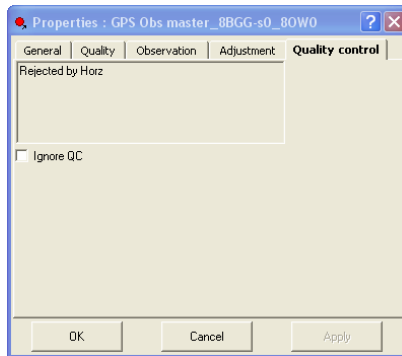

Figure 5-110. Quality Control Properties
- View *Quality Control* tab contains informational text on selected observations (marked in red on the views) that did not pass some of the quality control checks (Figure 5-110 on page 5-77).